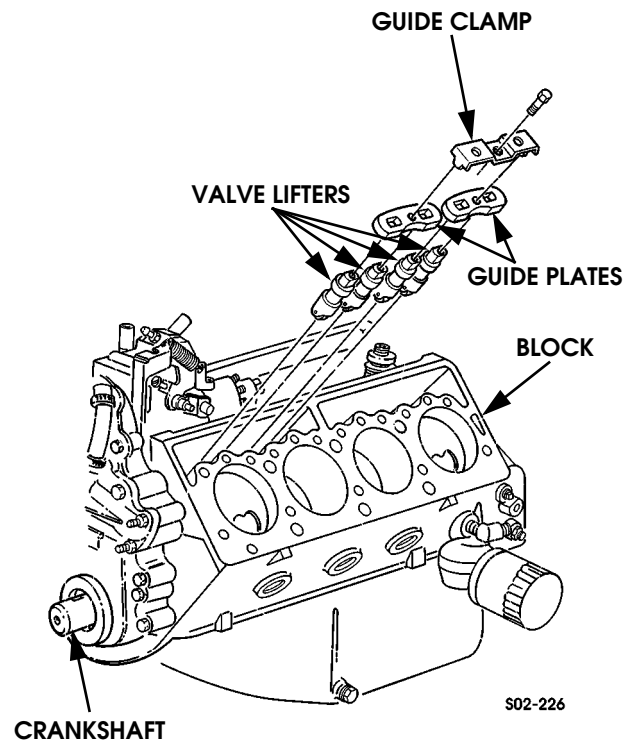

Figure 2-200: Valve Lifter Installation
3. Position guide plates on lifters. Then install guide clamps and bolts. Tighten bolts to 15-20 lb-ft (20 -27 N•m) (Figure 2-200).